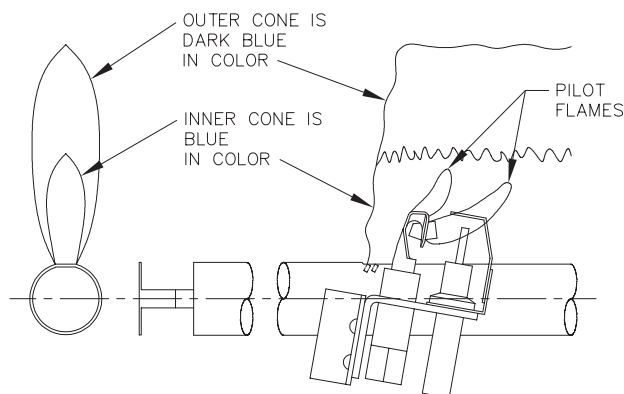

Figure 9.1: Intermittent Pilot and Main Burner Flame
3. Check the pilot and main burner flame. See Figure 9.1. The pilot should provide a steady flame enveloping 3/8" to 1/2" (1 cm to 1.2 cm) of the flame sensor. If required, adjust the pilot as stated in the gas valve manufacturer's instructions. The main burner flame inner cone should be approximately 1-1/2" (4 cm) high and should have a very sharp, blue color characteristic.